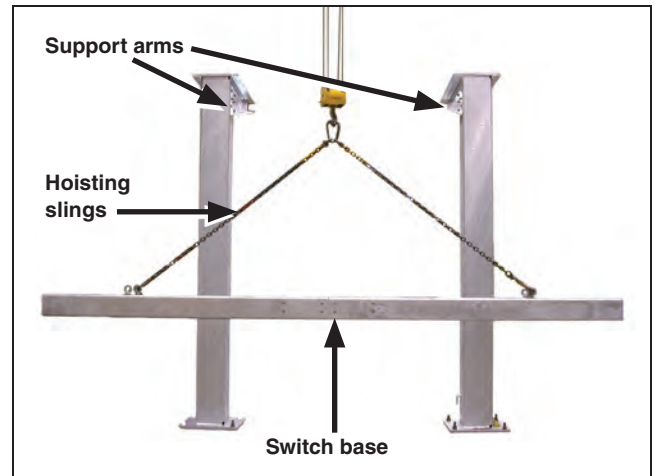

Figure 4. Hoist the switch base into position on top of the pedestals and support arms.
- (a) Attach suitable lifting slings to the switch base using the eyebolts provided. See Figure 4.